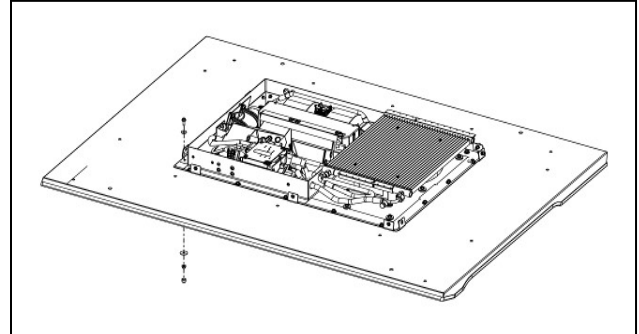

Fig. 8.1 Install A/C Unit
- 8.1** With assistance, place the air conditioner unit onto the roof, center it inside of the roof's rectangular opening. See Figure 8.1.